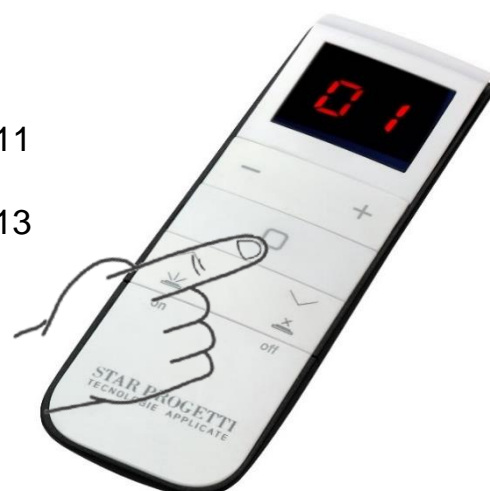

Fig.13
- On channel «1», press the button as shown in fig. 13